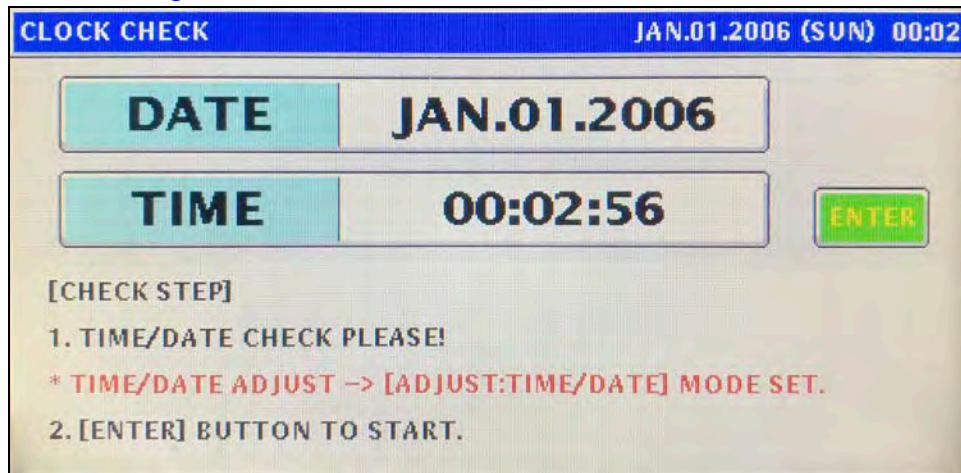

Figure 23. Initial Clock Check Screen
12. Power up the scale, press the green **ENTER** button at the Date/Time confirm screen. See Figure 23.